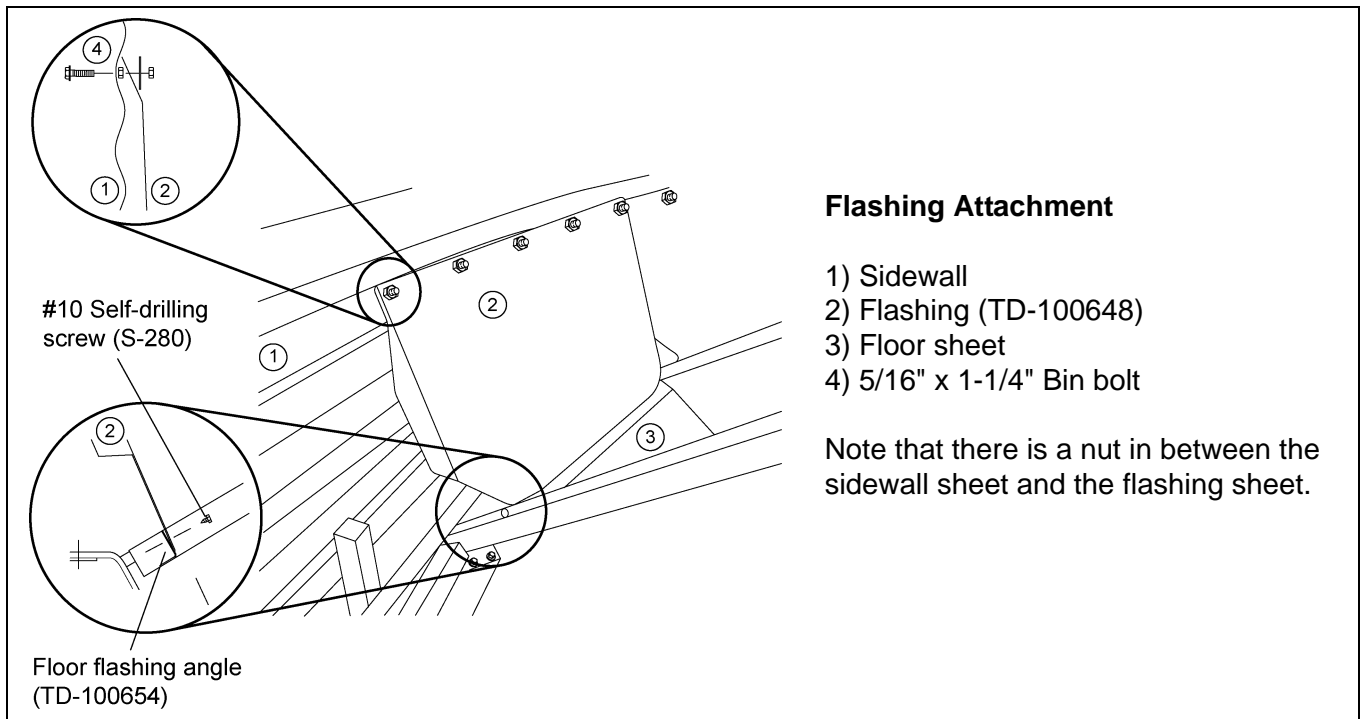
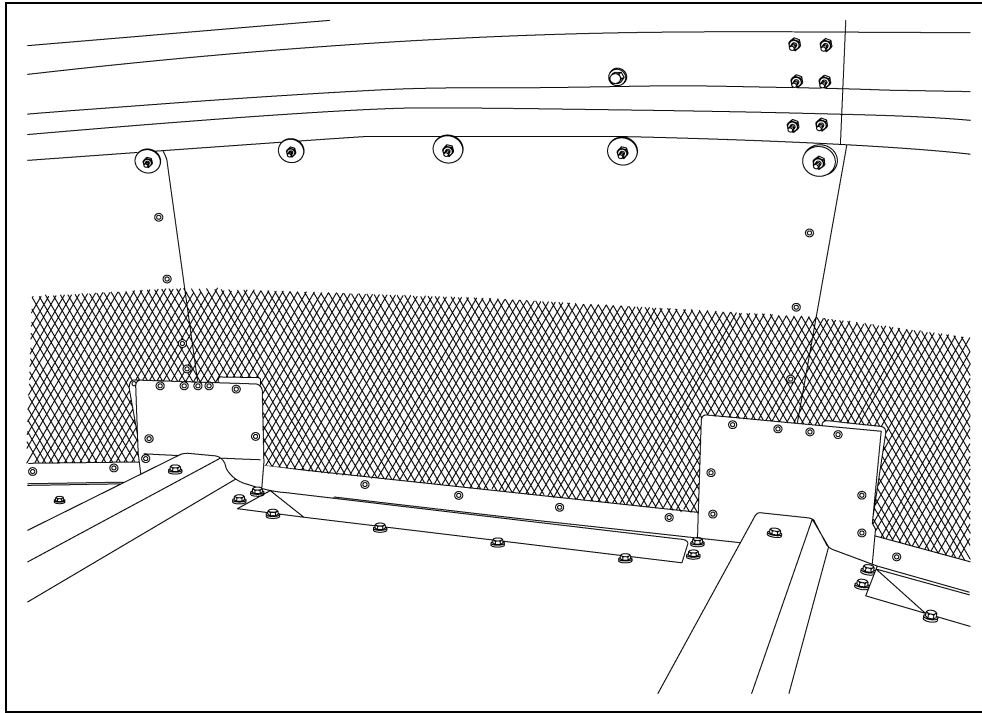

Figure 8K
Figure 8L
Install the eave flashing centered on the floor sheet (1 per) with the bent edge towards the sidewall install a fender washer (S-3671) and nut. Screw the flashing to the flashing angle at the dump hopper opening with five (5) #10 self-drilling screws (S-280) and screw the flashing pieces together where they overlap with three (3) #10 self-drilling screws (S-280). (See Figure 8K below and Figure 8L on Page 43.)